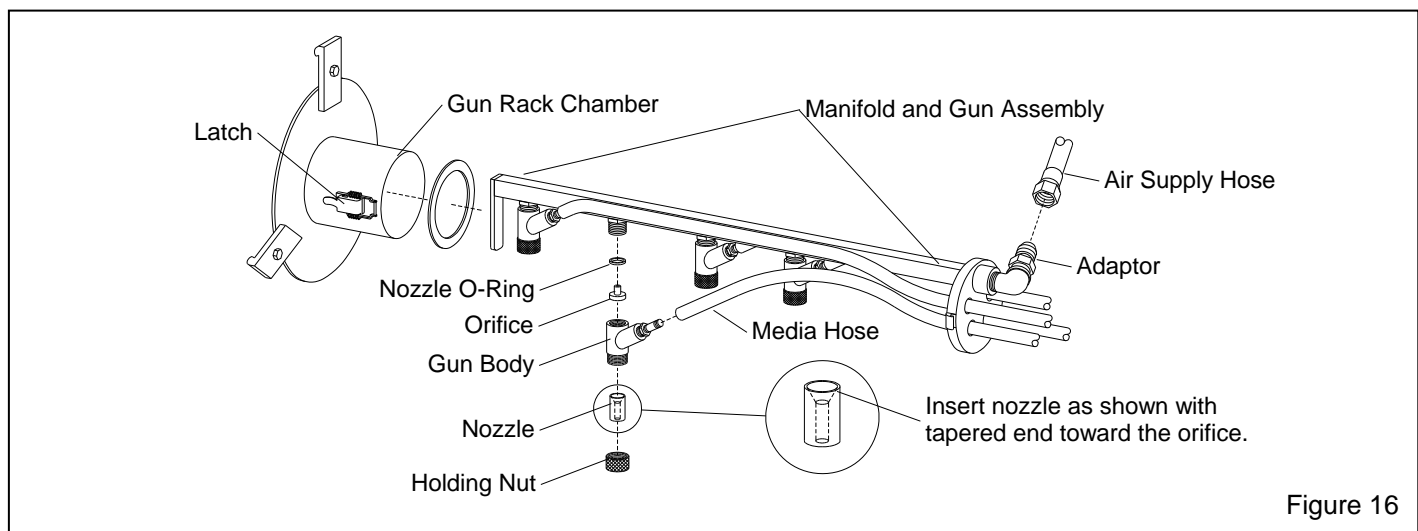

Figure 16
7.1 Gun and Nozzle Assembly, refer to Figure 16
7.1.8 Insert a new nozzle, making sure the tapered end faces toward the orifice, as shown Figure 16. Screw the holding nut onto the gun to secure the nozzle.